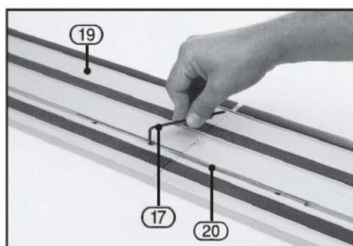

FIG.4
10.2 Connecting the rail (Fig. 4)
- The rail (19) is used to make straight cuts. To connect the two rails, slide the fastener into the notch on the guide tracks. Tighten the set screws (20) with the included hex key (17).
- Note: Rail (19) features a splinter guard (black rubber lip). Place the rail (19) on a work piece. Set to a cutting depth of approx. 10 mm. Switch on the plunge saw and steadily guide it in the direction of the cut, pushing slightly. This cuts off the guard perfectly in line with the cut ensuring that set-up for future cuts is easy.